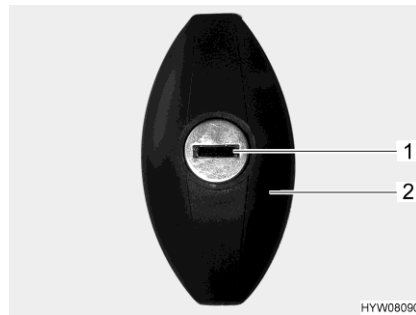

Fig. 37 Flap lock
- Insert key into locking cylinder (Fig. 37,1) and turn one half turn in an anticlockwise direction. The lock handle (Fig. 37,2) snaps out.